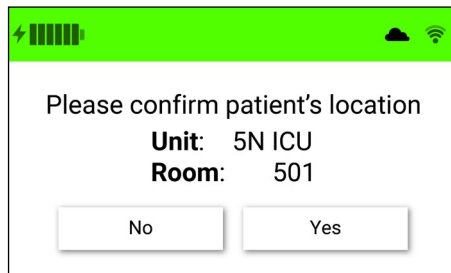

Figure 41. Validate patient unit and room number screen
1. Whenever the Guardian System 2.5 is plugged in during use on the bed & seat, it will prompt the user to validate the current patient unit and room number. (Fig. 41)